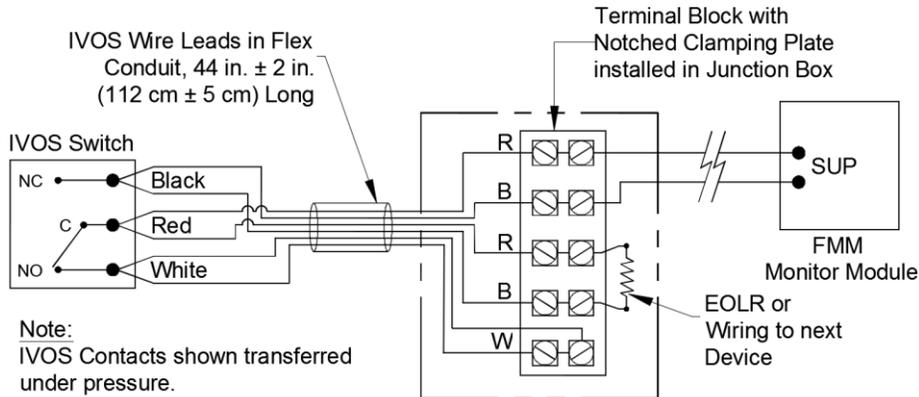

Figure 2 IVOS Wiring
2. Connect the IVOS wire leads to the Notifier FMM monitor module as shown in Figure 2. Refer to the installation instructions supplied with the Notifier module for correct terminal connections.